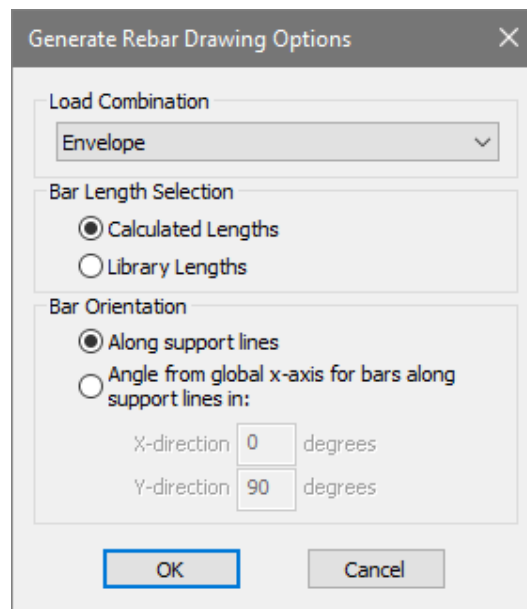

Figure 9-114
- Go to *Floor Design* → *Rebar* and click on the *Calculated Rebar Drawing*  icon this will bring up the *Generate Rebar Drawing Options* window shown in **FIGURE 9-114**.